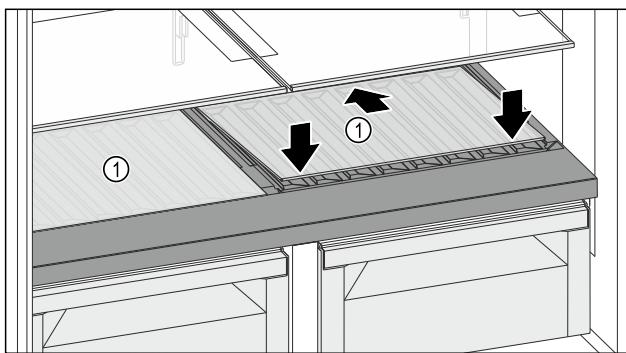

Fig. 133
- ▶ Place the glass shelf Fig. 133 (1) at an angle, sloping it downwards and backwards.
- ▶ Lower the glass shelf Fig. 133 (1) at the front.